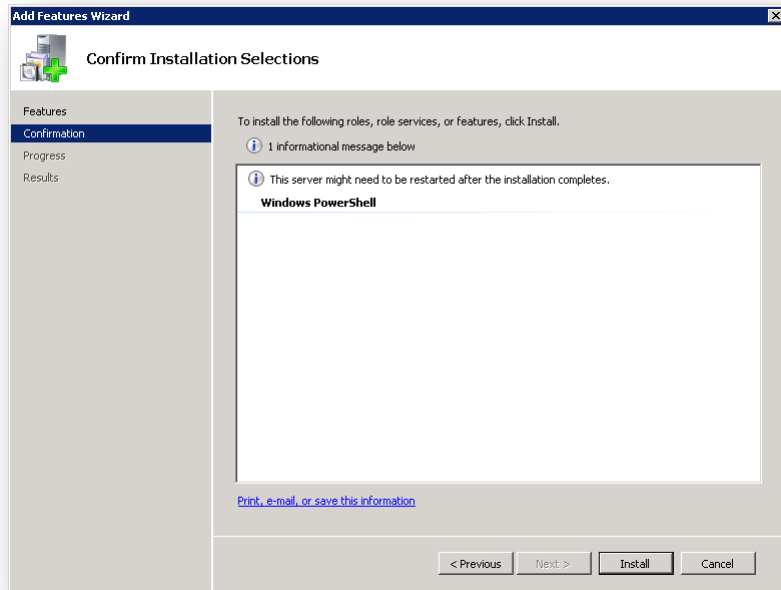

Figure 9 – Add Features Wizard (Confirm Installation Selections)
14. Click **Install** to install Windows Power Shell. See Figure 9.